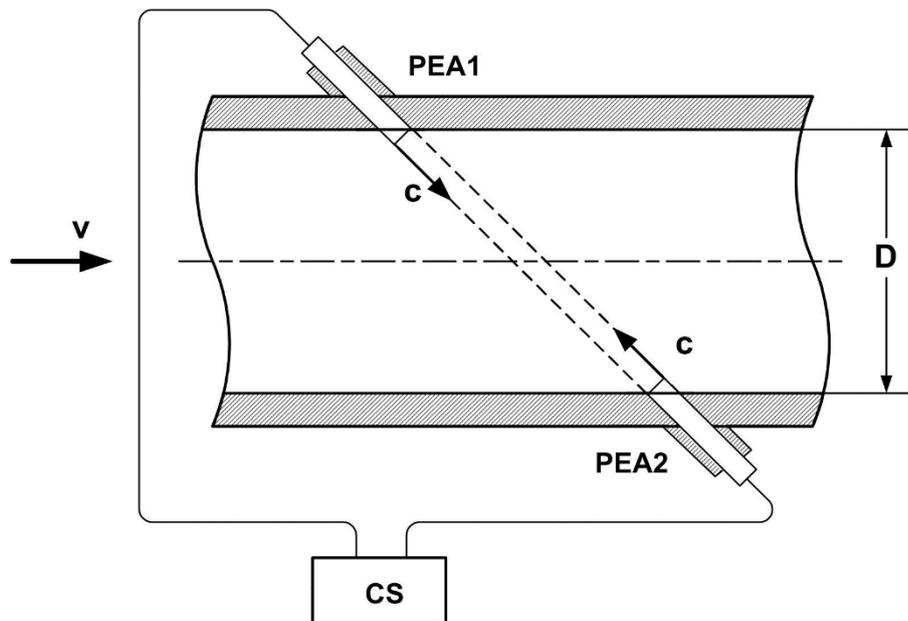

Fig.2. Diagram of the pipeline section with PEA installed
- 1.5.1.2. The peculiarity of this type of ultrasonic flow meter is alternating supply of electrical probing pulses generated by the secondary converter (SMC) to the converters PEA1 and PEA2 (Fig.2).